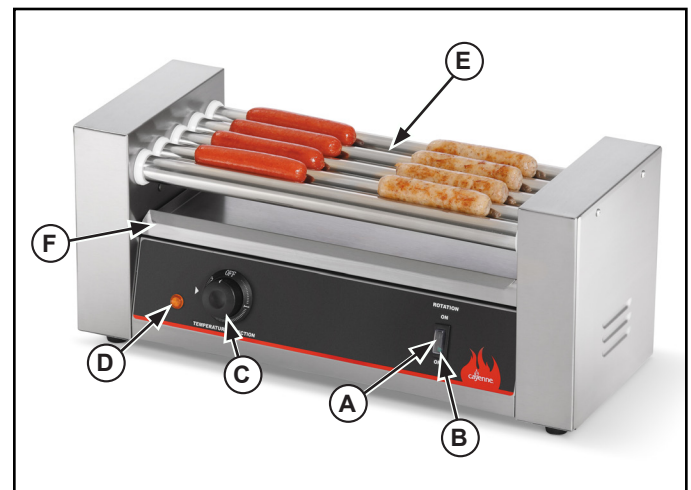

Figure 1. Features and Controls.
2. Set the drip tray (F) in place. See Figure 1.
3. Switch the power switch (A) to the ON position.
4. Turn thermostat control (C) to desired temperature setting and preheat for 15 minutes.
5. Set precooked food product onto the rollers (E).
9. Switch the power switch (A) to the OFF position. See Figure 1.
3. Wipe the rollers (E) with a clean dry cloth. See Figure 1.
7. Remove, empty and clean the drip tray (F). Place the drip tray into the equipment.